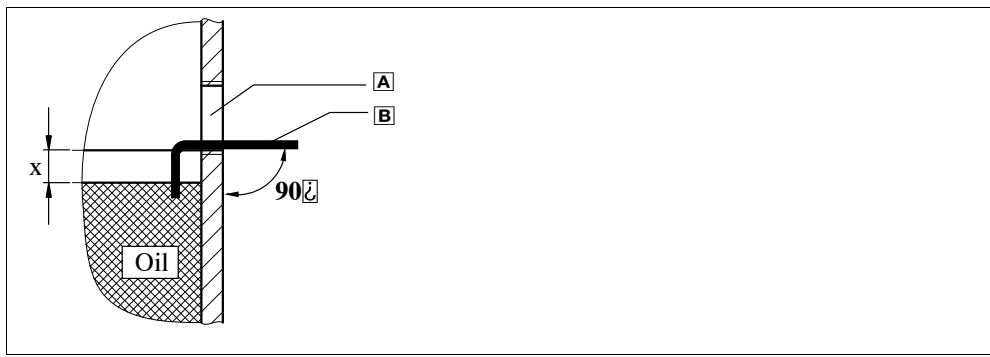

Fig. 4 Oil-level check with auxiliary tool
- Min. oil level: X mm below bottom edge of oil-level bore (see Fig. 4 and Tab. 5).
- Min. oil level: 2 mm below the bottom edge of the oil-level bore, see Fig. 4